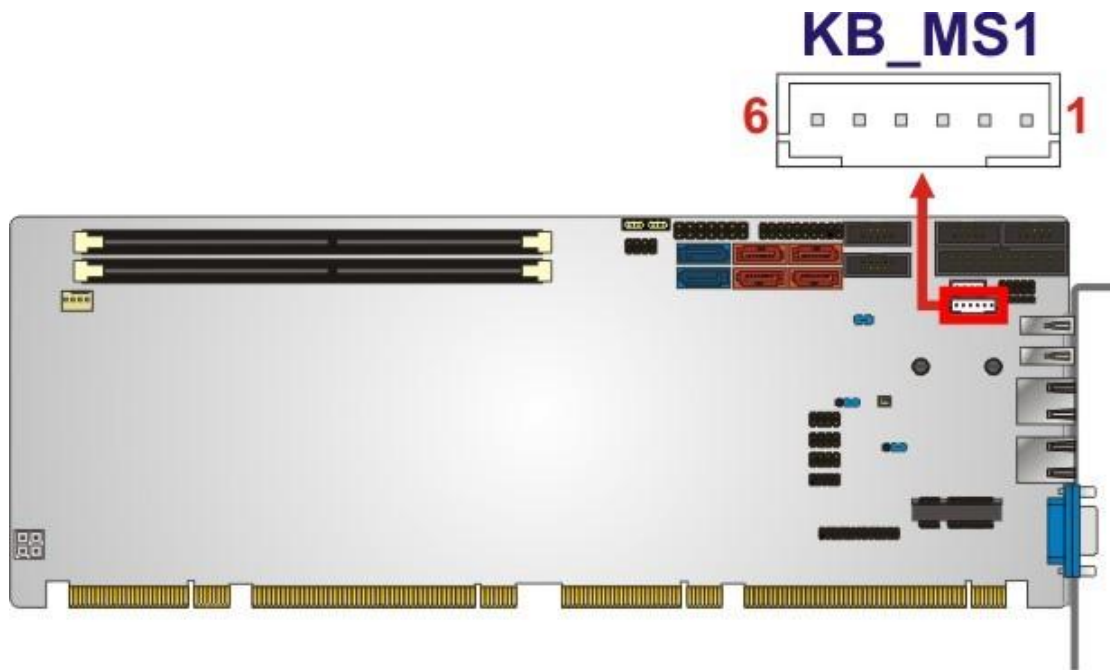

Figure 3-12: Keyboard/Mouse Connector Location
- CN Location: See Figure 3-12